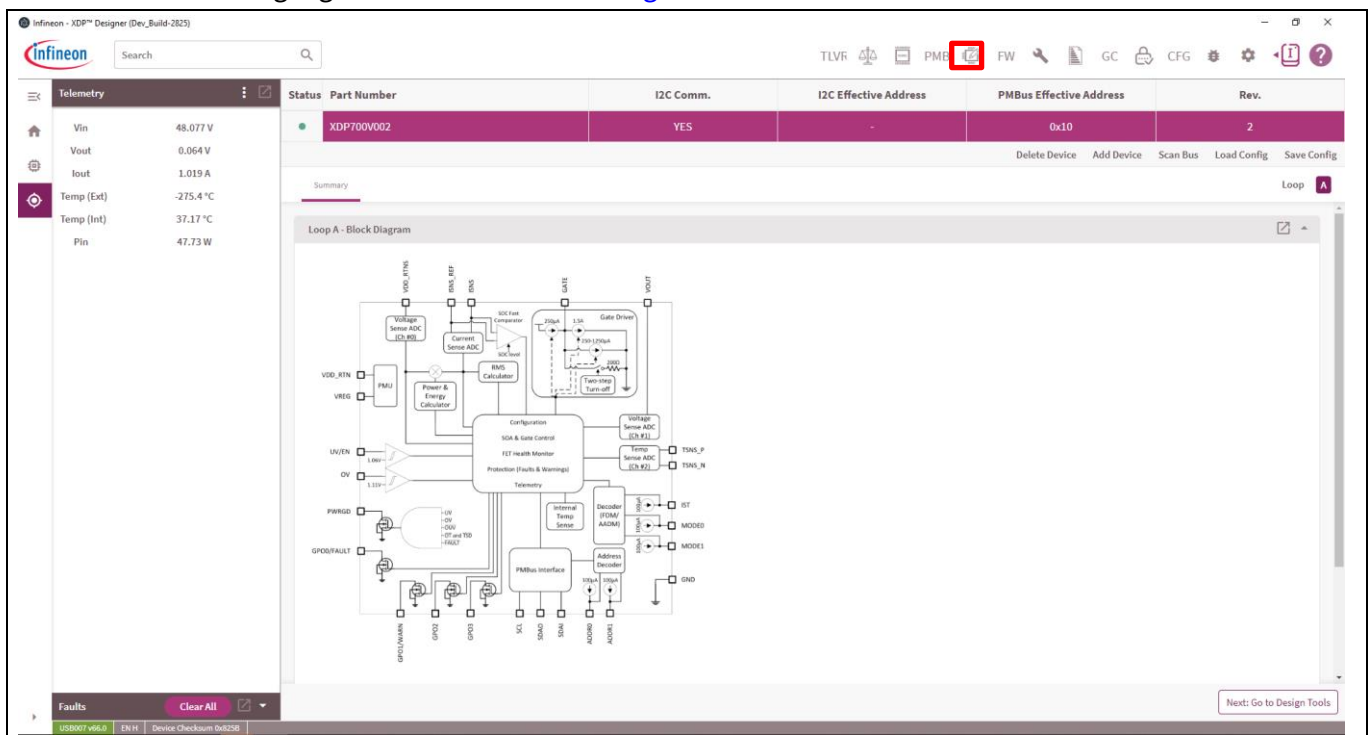

Figure 45 Programming tab
2. Click the button highlighted in red as shown in Figure 45.